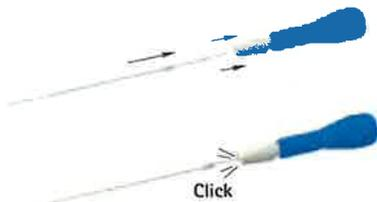

Fig. 2 Assembling the drill
- Insert drill in the drill handle (FJ839R), see Fig. 2.
- Slightly rotate the drill and release locking sleeve. The drill engages audibly, see Fig. 2.